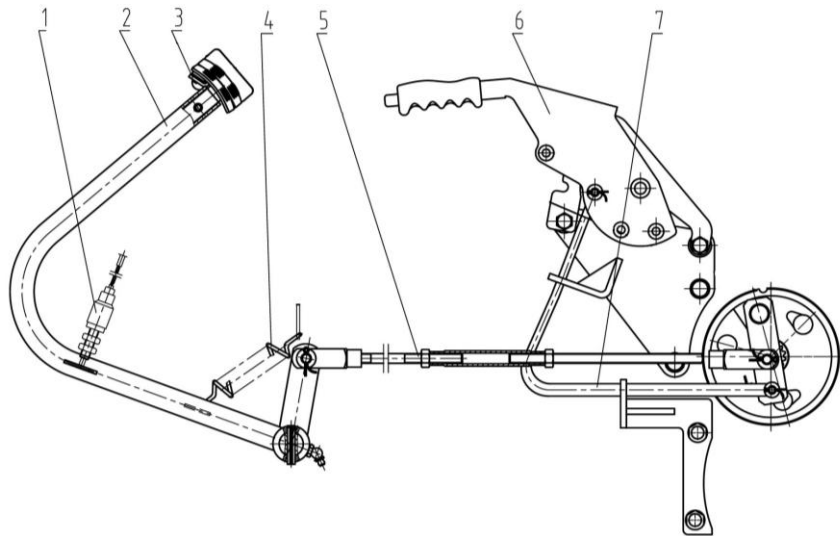

Figure 6-2 Brake operating
The free travel of the pedal is the displacement measured from the highest position of the pedal to the position where you are begin to feel resistance when pressing the pedal. It should be in the range of 55~65mm (see Figure 6-2).
Loosen the nut on the pull rod (5) and rotate the adjusting screw to change the length of the brake pull rod. Then press the brake pedal (2) from the highest position to eliminate the gap between the brake disc and the brake shoe. Make the adjustment of the left lever and the right pull rod adjustments identical, then secure them by tightening the lock nut (see Figure 6-2).
Loosen the nut on the pull rod, adjust the stop bolt and then depress the brake pedal (2). Tighten the nut when the brake can be fully applied. You need to readjust the pull rod after using the tractor for a period of time (see Figure 6-2).
Adjust the working stroke of the brake pedal and the nut on the pull rod before you can adjust the brake switch (1) so that the contact between the pedal control board and the brake switch is compressed by 2~3mm and always in a constant engagement state. Then tighten the nut (see Figure 6-2).
When the left and right brake adjustment is not consistent, inconsistent left, right tyre brake marks and wandering phenomenon will occur if the tractor brakes abruptly during driving at high speed. At this point, the adjusting pull rod (5) on the long side of the mark should be lengthened appropriately and the adjusting pull rod (5) on the short side of the mark should be shortened appropriately. Shorten the adjusting pull rod appropriately until the left and right tyre marks are basically the same length and can ensure reliable braking, then tighten the lock nut and check at low speed, recheck at high speed after adjustment (see Figure 6-2).